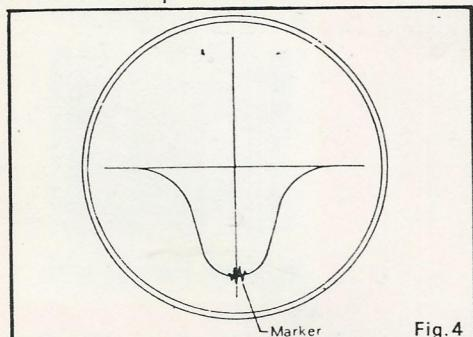

Fig. 4
2) Adjust by turning the cores of IFT201, 202 so that the height of waveform becomes maximum with good symmetry, as shown in the right Fig. 4.